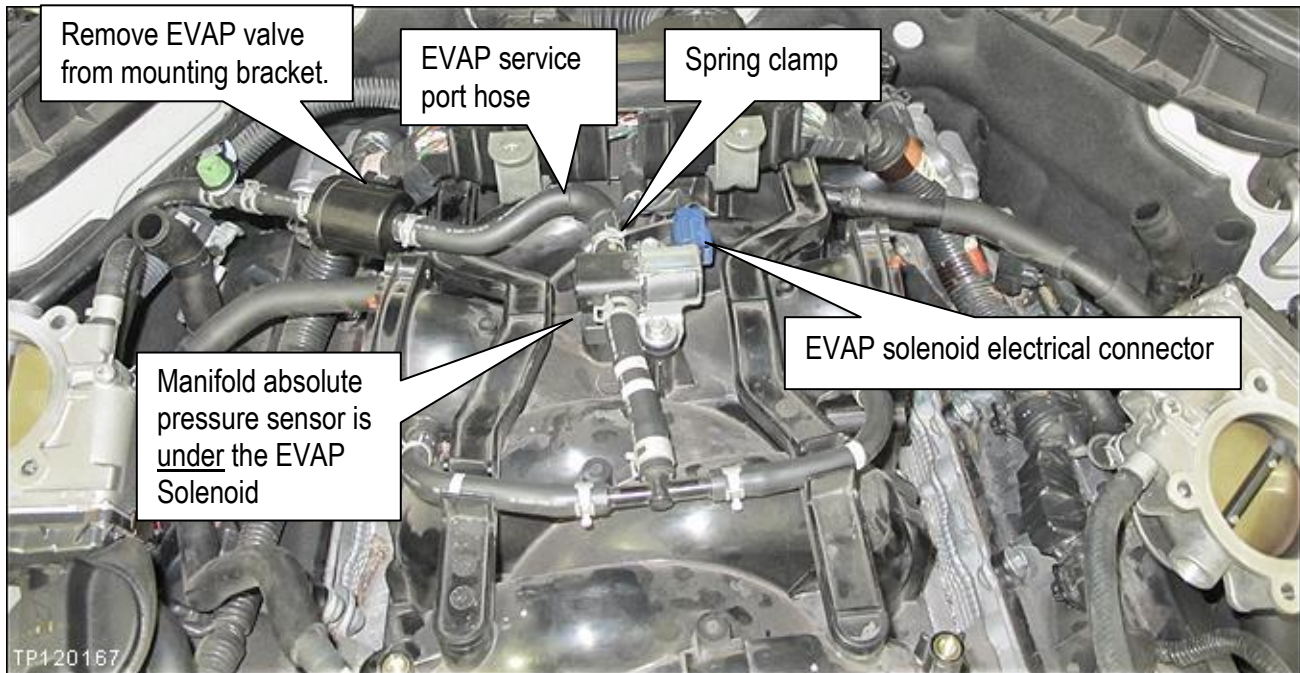

Figure 6m
10. Disconnect EVAP solenoid electrical connector (see Figure 6m).
11. Disconnect EVAP service port hose and position hose out of the way (see Figure 6m):
NOTE: The manifold absolute pressure sensor is under the EVAP Solenoid (see Figures 6m and 7m).